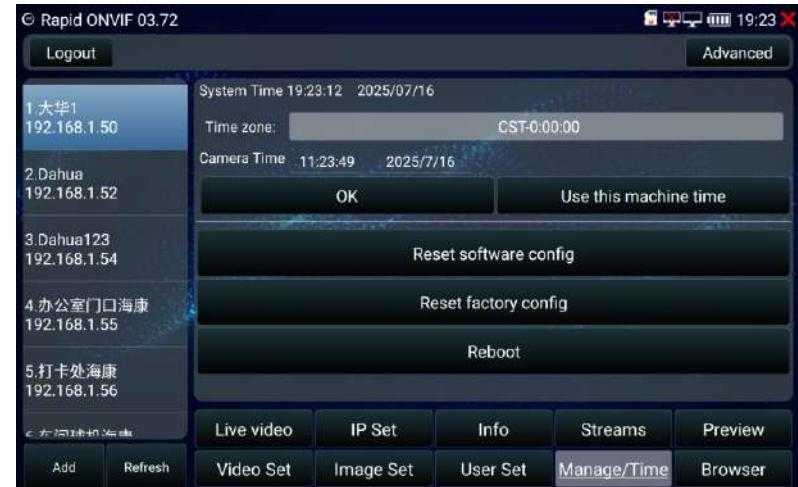

Figure 21
2) Maintenance / time, touch the Manage / Time setting button to reboot camera, reset configuration or change Time zone, as shown in Figure 21